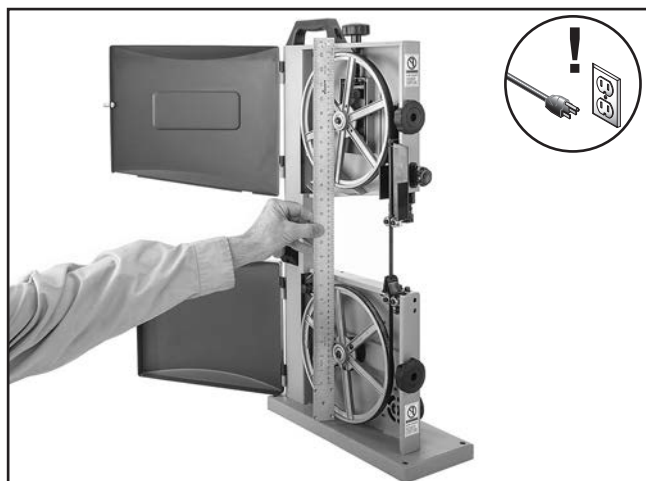

Figure 69. Example of checking if wheels are coplanar.
3. With blade on and properly tensioned, hold a straightedge close to center of both wheels. Make sure straightedge fully extends across rims of both wheels, as shown in **Figure 69**.